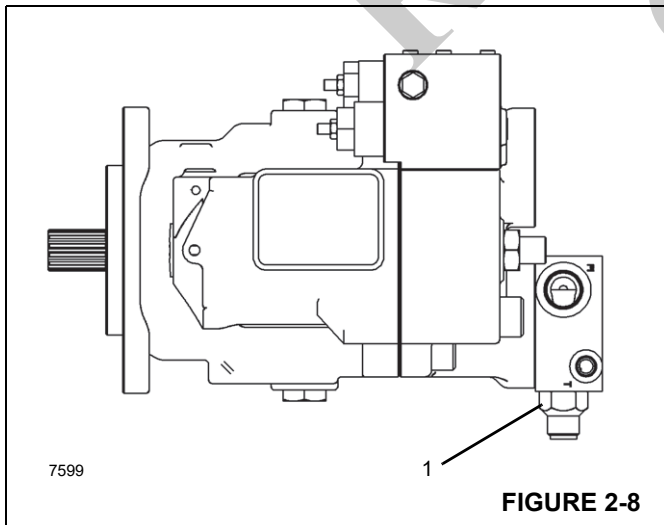

FIGURE 2-8
4. Activate the function for the selected outrigger hydraulic line and adjust the flow control relief valve (1, Figure 2-8) on the hydraulic pump manifold to 20684 kPa ±689 (3000 ±100 psi).